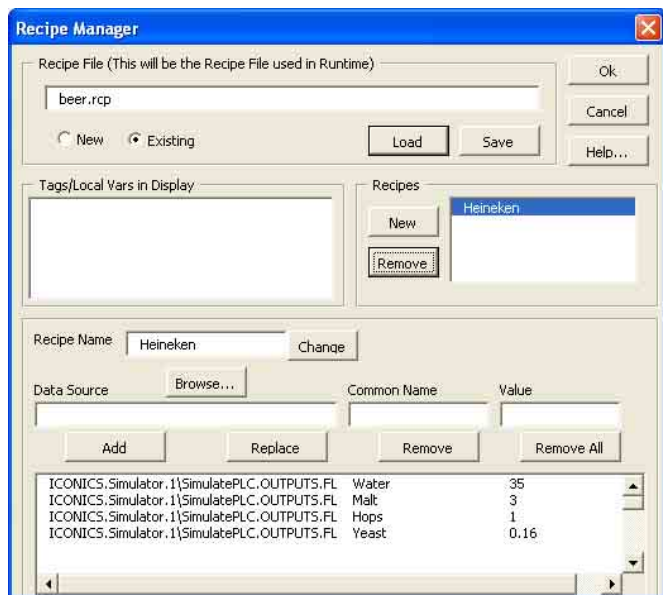

Fig. 3: Heineken Beer Recipe
9. The end result will look like **Fig. 3**.